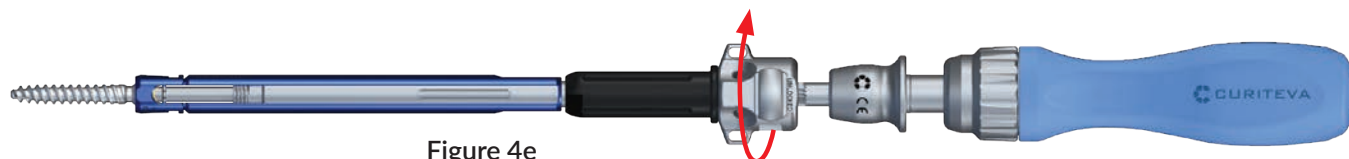

Figure 4e
- With the chosen ratcheting handle in the neutral non-ratcheting position, engage the internal threads of the tulip by rotating the Pedicle Screw Driver knob clockwise until tight. **(Figure 4e)** This step should be performed with the screw resting upon a sterile surface to avoid premature screw disengagement.